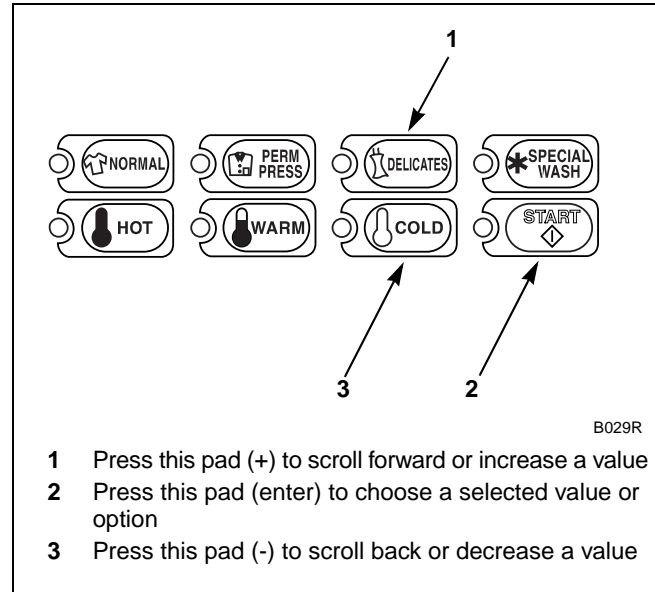

Figure 158
5. Press the DELICATES (+) or the COLD (-) keypad to increase or decrease the current output value displayed in the VFD to the desired output value. Refer to *Figure 158*.